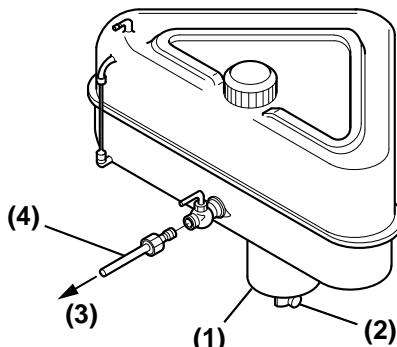

Figure 2
Install a drain cock (Figure 2, (2)) at the bottom of the fuel tank to remove water and contaminants from the sediment bowl (Figure 2, (1)).